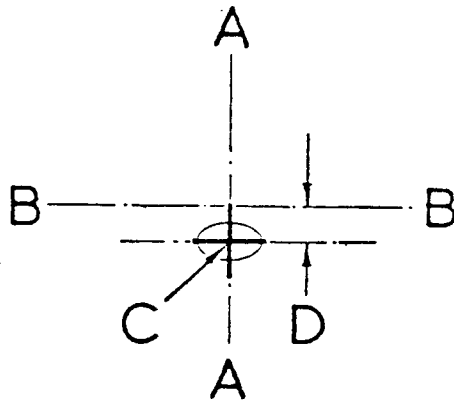

Fig O5.10
(6) Refit the light unit (4) and connect the leads to the plug connector.
(7) Replace the headlamp rim (3) and secure with the self tapping screws.
(8) Refit the headlamp bezel (2) and secure with the fixing screws.
(9) Reconnect the battery earth lead.
(10) Check and if necessary adjust the headlamp using suitable beam setting equipment. The beam setting screws and beam position diagram are given in Fig O5.10 below: